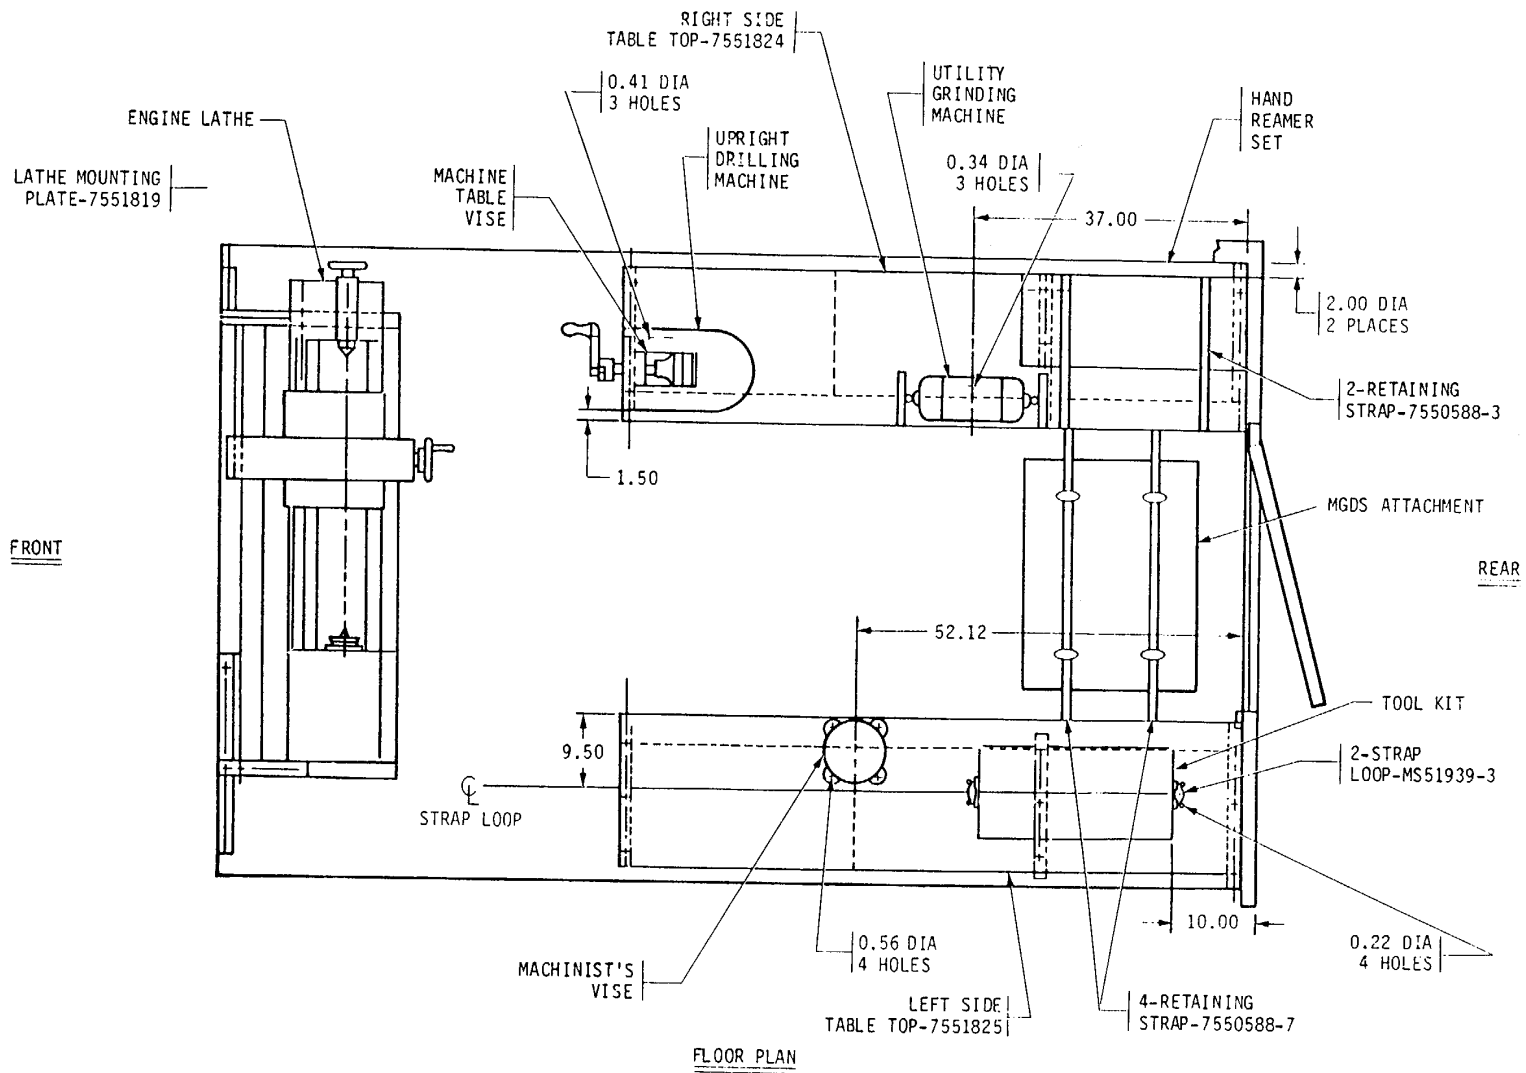
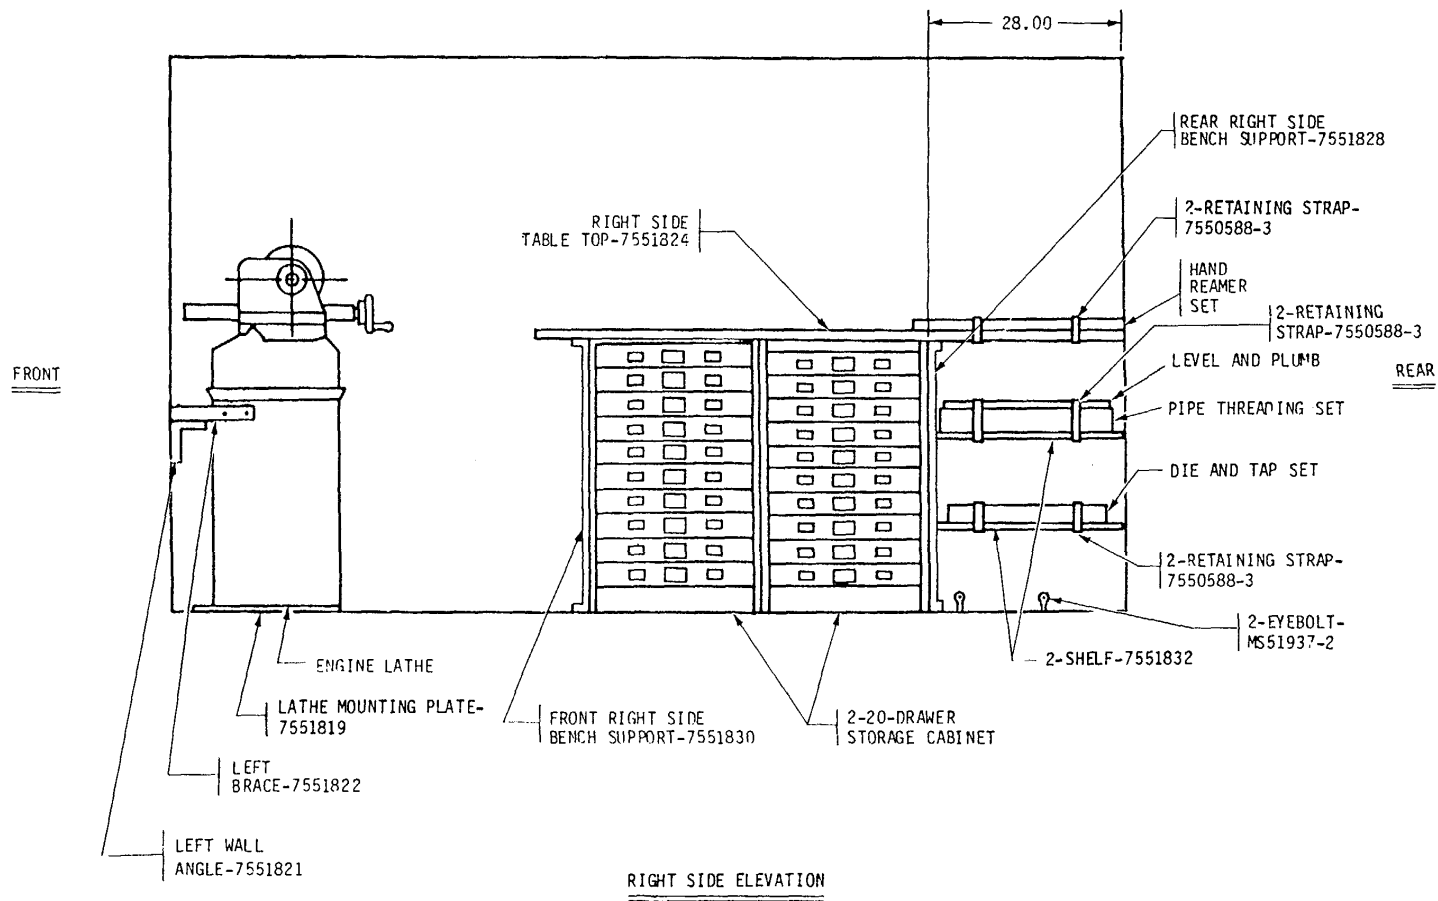
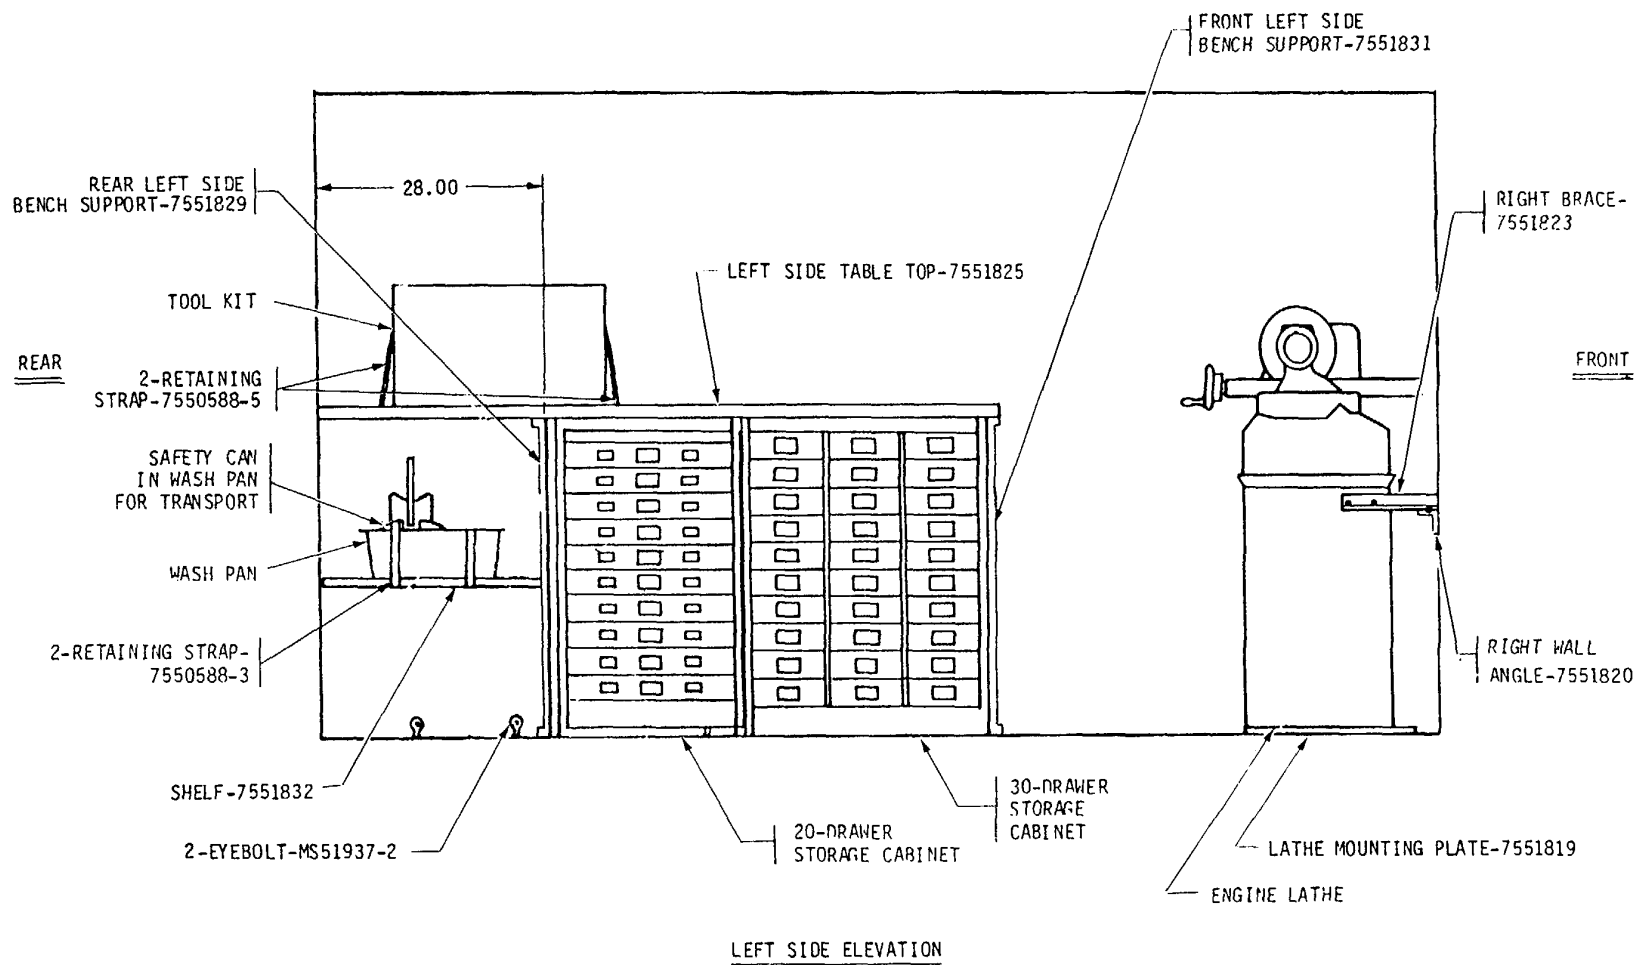

Figure 2. Components to be mounted, unit 1, 280, floor plan.
Figure 4. Components to be mounted, unit 1, 280, right side elevation.
Figure 5. Components to be mounted, unit 1, 280, left side elevation.
(8) Position right side table top (7551824) and left side table top (7551825), with notched end on left side of 280 shelter, on top of bench supports and table support angles in accordance with figures 2 and 10. Using the holes in top flange of installed bench supports as templates, mark and drill eighteen 0.34-in. diameter holes through table tops and countersink the holes in accordance with figure 15. Secure table tops to bench supports, using twelve 5/16x 13/4-in. countersunk head machine screws (MS35190-309). Secure table tops to table support angles, using six 5/16x 2-in. countersunk head machine screws (MS35190-310), eighteen 5/16-in. lockwashers (MS35338-45), and eighteen 5/16-in. hex nuts (MS51967-5).
(9) Position base of upright drilling machine (3413-00-165-4136) flush with left end of right side table top in accordance with figure 2. Using base of upright drilling machine as a template, mark and drill three 0.41-in. diameter holes through right side table top and storage cabinet. Secure, using three 3/8x 3-3/4-in. hex head capscrews (MS90725-73), three 13/32-in. flat washers (MS27183-14), three 3/8
(10) Secure machine table vise (3460-00-277-3504) to base of upright drilling machine, using furnished tee bolts and nuts (fig. 2).
(11) Position utility grinding machine (3415-00-517-7754) on right side table top in accordance with figure 2. Using base of utility grinding machine as a template, mark and drill three 0.34-in. diameter holes through right side table top and storage cabinet. Secure utility grinding machine, using three 5/16x 2-in. hex head capscrews (MS90725-40), three 5/16-in. lockwashers (MS35338-45), and three 5/16-in. hex nuts (MS51967-5).
(12) Position hand reamer set (5110-00-357-6858) on right rear corner of right side table top (7551824) in accordance with figures 2 and 4. Secure, using two 48-in. retaining straps (7550588-3) wrapped around hand reamer set and right side table top.
(13) Position machinist's vise (5120-00-293-1439) on left side table top (7551825) in accordance with figure 2. Using base of machinist's vise as a template, mark and drill four 0.56-in. diameter holes through left side table top and storage cabinet. Secure machinist's vise to left side table top, using four 1/2 x 3-in. hex head capscrews (MS90725-119), eight 17/32-in. flat washers (MS27183-18), four 1/2-in. lockwashers (MS35338-48), and four 1/2-in. hex nuts (MS51967-14).
(14) Position tool kit (5180-00699-5273) on left side table top (fig. 2). Locate two strap loops (MS51939-3) 1.00 inch from each end of tool kit and in line with handles in accordance with figure 2. Using strap loops as templates, mark and drill four 0.22-in. diameter holes through left side table top and storage cabinet. Secure strap loops, using four #10 x 1-3/4-in. countersunk head machine screws (MS35190278), four #10 flat washers (AN970-3), four #10 lockwashers (MS35338-43), and four #10 hex nuts (MS35649-202). Secure tool kit, using two 24-in. retaining straps (7550588-5) (fig. 5).
(15) Position level and plumb (5120-00-239-0892) on top of pipe threading set (5180-00-357-7514) and place on top shelf in accordance with figure 4. Secure with two 48-in. retaining straps (7550588-3).
(16) Position 88-piece die and tap set (5136-00-357-7504) on lower shelf on right side of 280 shelter in accordance with figure 4. Secure with two 48-in. retaining straps (75505883).
(17) Place safety can (7240-00222-3084) in wash pan (4940-00-7953595) and position on shelf (7551832) in accordance with figure 5. Secure with two 48-in. retaining straps (75505883). (Pass one retaining strap through handle of safety can.)
(23) Position MGDS attachment (3460-00-840-1010) on floor in accordance with figure 2. Using strap loop (MS51939-3) as a template, mark and drill eight 0.22-in. diameter holes through top of box as shown in figure 21. Secure four strap loops (MS519393), using eight #10 x 1-3/4-in. countersunk head machine screws (MS35190-278), eight #10 flat washers (AN970-3), eight #10 lockwashers (MS35338-43), and eight #10 hex nuts (MS35649-202). Install four 5/16x 2-31/32-in. shoulder eyebolts (MS51937-2) and four 5/16-in. hex nuts (MS51967-5) into floor on left and right side of aisle as shown in figures 4, 5, and 11. Secure MGDS attachment with four 92-in. retaining straps (7550588-7) laced through shoulder eyebolts and strap loops in accordance with figure 2.
c. Follow steps (1) thru (9) below for electrical component installation in 280 shelter, unit 1.